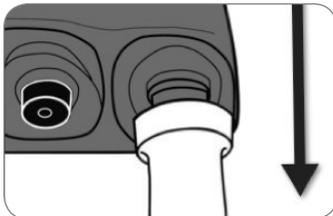

Figure 51: Remove white driveline cover
- 4) Pull back the white driveline cover from **original** controller's silver connector (Figure 51).